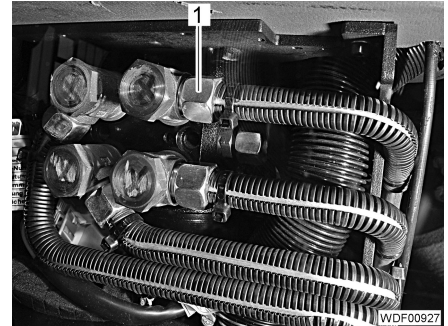

Fig. 190 Connections on the orbital steering valve
- Unscrew and close off the 5 hydraulic lines (Fig. 190,1).
- Screw and tighten the 5 hydraulic lines (Fig. 190,1) to the connections on the orbital steering valve.